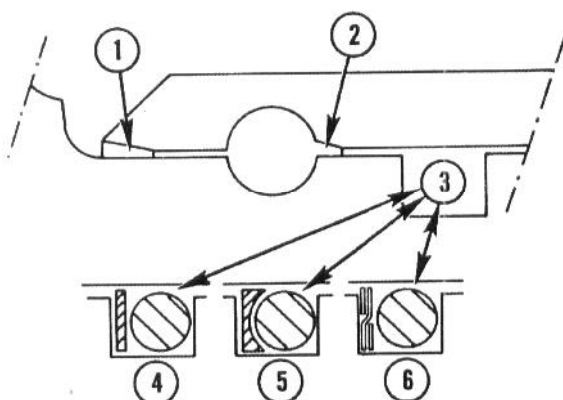

Fig. 71 — Installation of Static Seals and Back-Up Washers in OD Groove of Bearing
b. Install back-up washer and "O"-ring into groove on O.D. of bearing ... back-up washer to be nearest "hex side" of bearing, see Fig. 71.